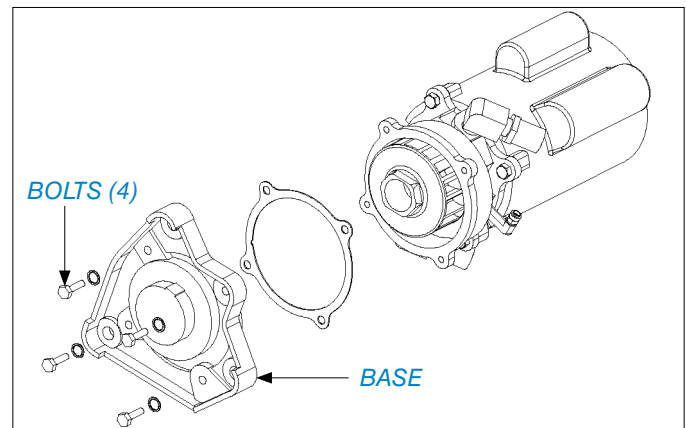

FIGURE 10. TAKE OFF BASE
9. Take off the base by removing the bolts that secure it to the housing. Then inspect the base for excessive scoring or side wear (*FIG 10*).